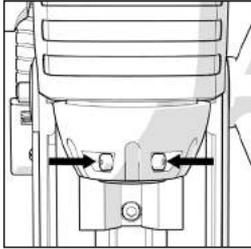
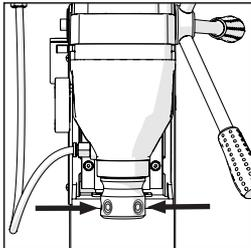

Fig. 8
Fig. 9
- Check that the cutter securing grub screws located in the end of the spindle are not protruding into the spindle bore. (EVOMAG42 - **Fig.8.**) (S28MAG - **Fig.9)**